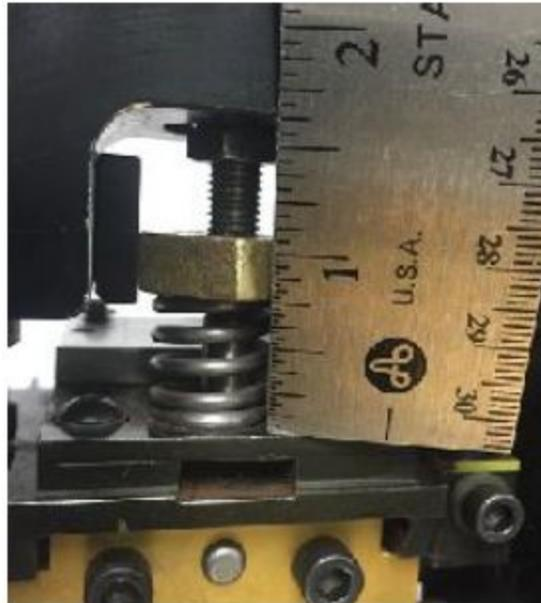

FIGURE 12
2. Measure the spring height as shown in Figure 12.